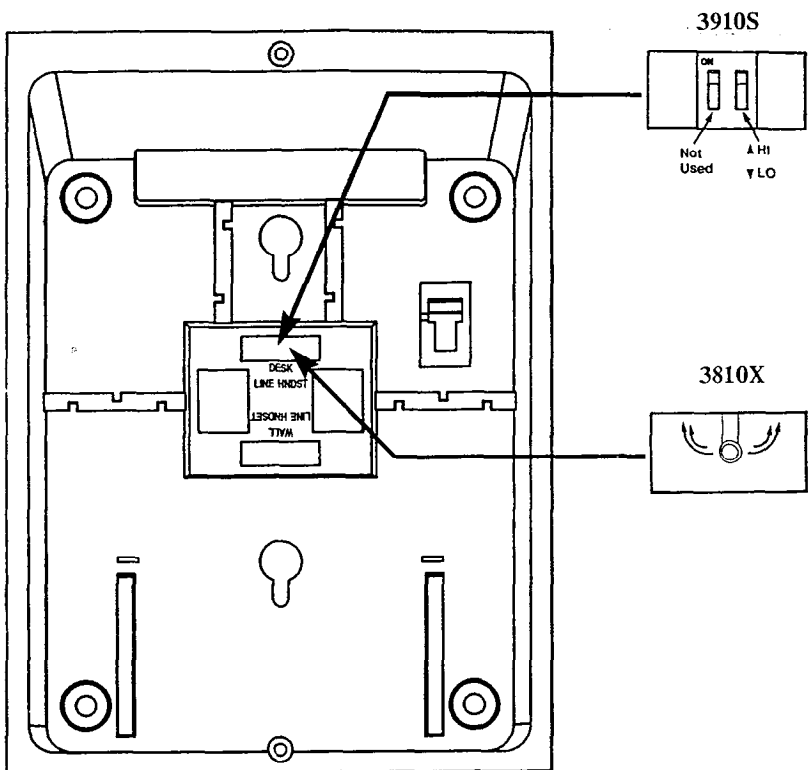

Figure 4. Ringer Volume Switch
- Locate ringer switch on the bottom of telephone housing (Figure 4).
- Locate ringer switch on the bottom of telephone housing (Figure 4); adjust the volume of the ringer by sliding lever from one side to the other.